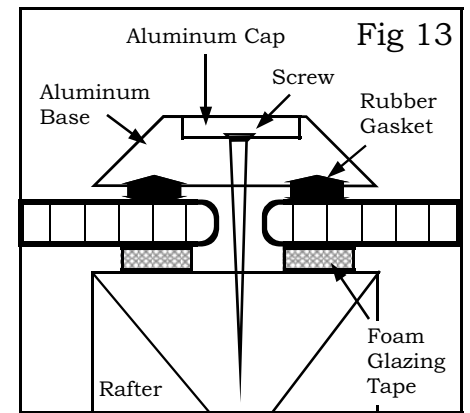

Fig 13
- B. For framing with two panels (**fig 13**):